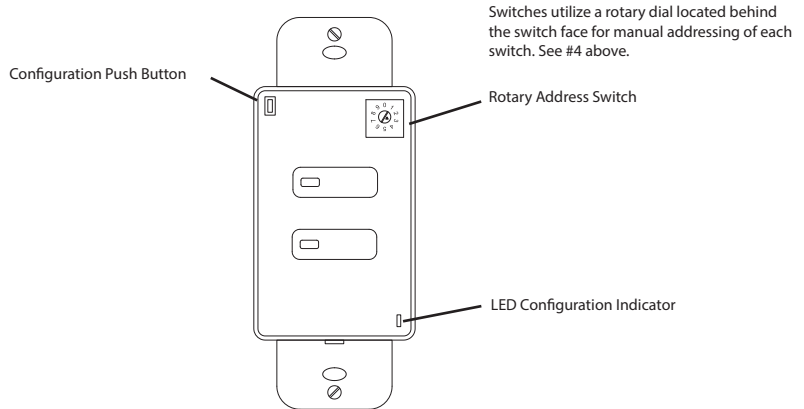

Figure 2: View Behind Switch Face
4. Set the switch address to number 1 on the rotary address switch. Additional switches to be daisy chained on the same SmartPORT must be set to unique addresses i.e. 2, 3, 4, etc. A maximum of 8 switches can be connected to one SmartPORT (See Figure 2).